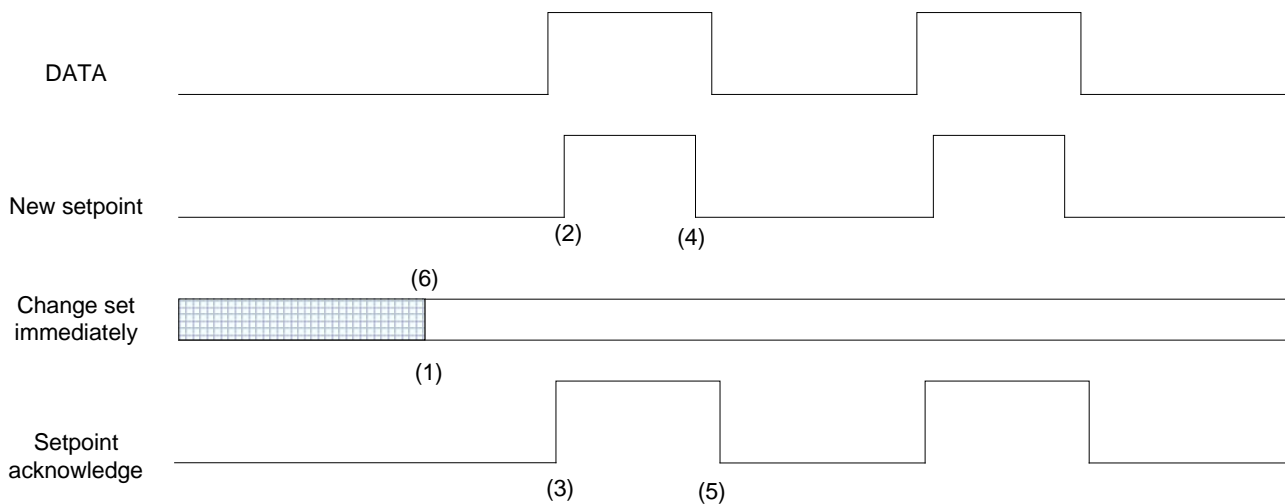
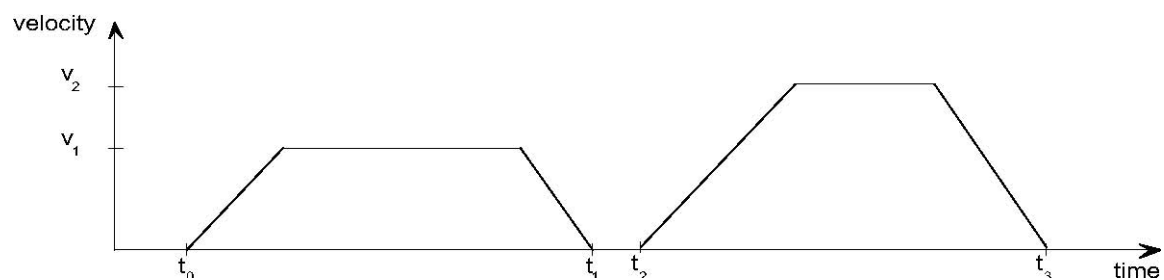

Figure 17: Set-point transmission from a host computer
Figure 18: Single set-point
Figure 17, Figure 18 and Figure 19 show the difference between the "set of set-points" mode and the "single set-point" mode. The initial status of the bit 'change set immediately' in the controlword determines which mode is used. To keep simple these examples, only trapezoidal moves are used.
If the bit 'change set immediately' is "0" (continuously drawn line in Figure 17) a single set-point is expected by the drive (1). After data is applied to the drive, a host signals that the data is valid by changing the bit 'new set-point' to "1" in the controlword (2). The drive responds with 'set-point acknowledge' set to "1" in the statusword (3) after it recognized and buffered the new valid data. Now the host may release 'new set-point' (4) and afterwards the drive signals with 'set-point acknowledge' equal "0" its ability to accept new data again (5). In Figure 18 this mechanism results in a velocity of zero after ramping down in order to reach a target position x1 at t1. After signaling to the host, that the set-point is reached like described above, the next target position x2 is processed at t2 and reached at t3.
If the bit 'change set immediately' is "1" (dashed line in Figure 17) the new target position will be active immediately. In Figure 19 the drive receives the first target position at t0. At the time point t1 the drive receives a second target position. The drive readapts the actual move to the new target position immediately.